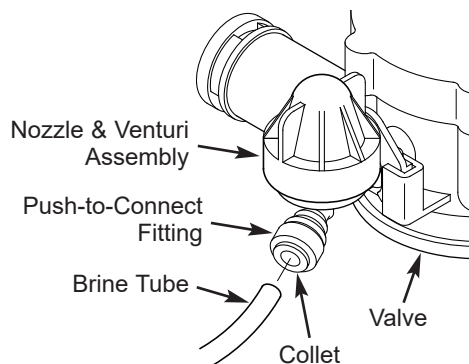
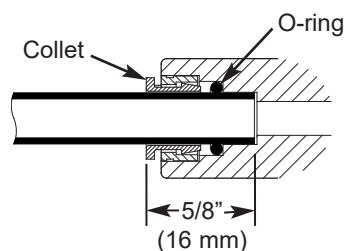

FIG. 17
FIG. 19
- c. Connect brine tube by inserting end into push-to-connect fitting on the valve's nozzle & venturi assembly (See Fig. 17). Push it until at least 5/8" (16 mm) of tube is inserted (See Fig. 19).